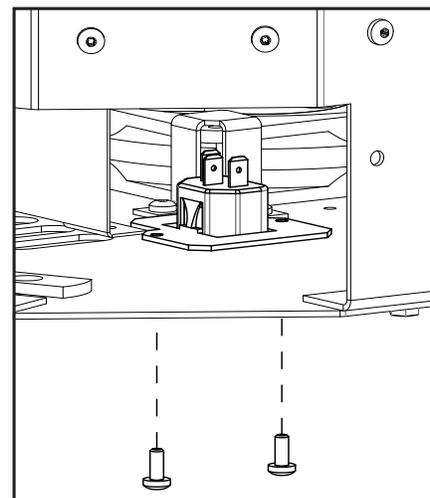

Figure 79: Electrical Plug Connection
5. Attach the adapter plate through the firebox reusing the two (2) T20 screws (see Figure 79).